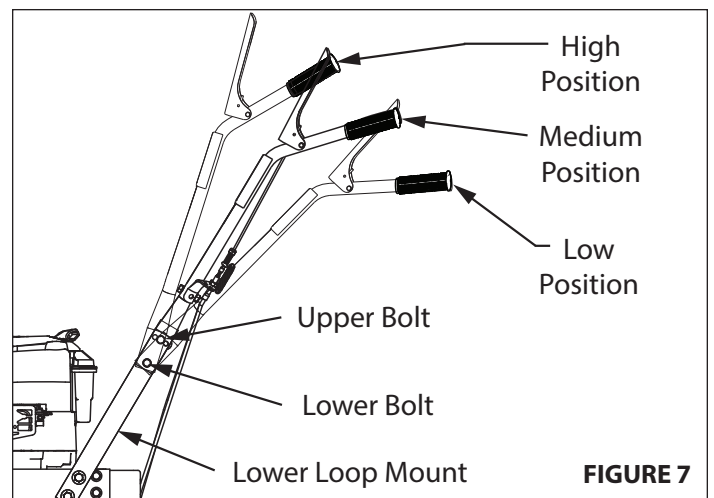

FIGURE 7
7. a. Assemble the upper handle bar assembly onto the lower loop mount using four M8 bolts, four M8 flat washers and four M8 locknuts. The handlebar as well as the bolt should go on the outer side of the lower loop mount, while the washer and nut should be placed on the inside. **SEE FIGURES 7 & 8**
b. The upper two bolts can be assembled through one of three hole positions depending on the user's preferred handle bar height (low, middle, high). For the highest height, insert bolt into the most forward hole. For the lowest height, insert bolt into the most rear hole. **SEE FIGURE 7**